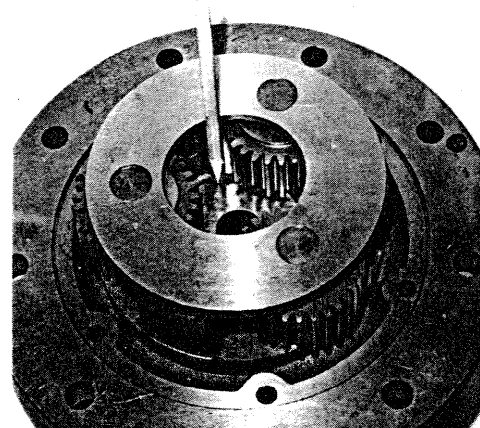

Figure 8 Thrust washer shown in position
**STEP 9** The thrust washer, (Figure 8) remains with secondary carrier and is usually not removed. ▶